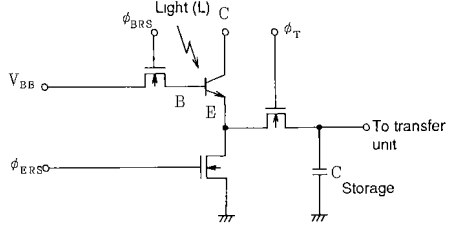

Figure 3-202
From Figure 3-202, we note that the volume of charge stored (Q) in the base of the phototransistor equals the intensity of light obtained by exposure (L).